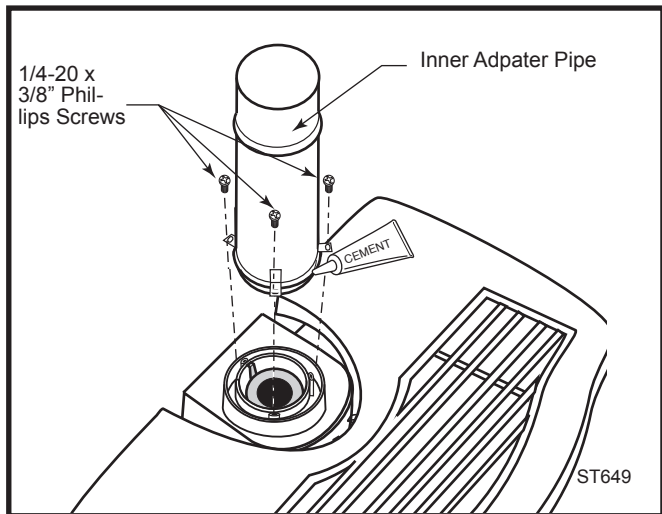

Fig. 22 Simpson DuraVent - install inner adapter pipe.
- Run a bead of sealant around the bottom end of the starter pipe and attach the assembly to the stove using three 1/4-20 x 3/8" Phillips screws provided in the parts bag. (Fig. 22)